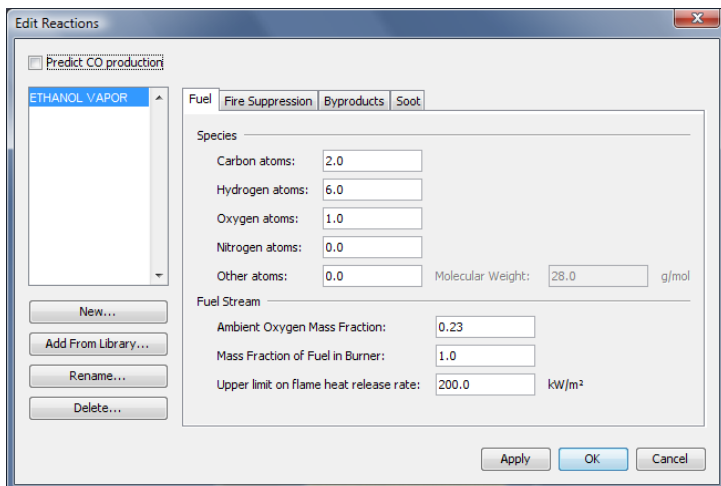

Figure 11.2. Fuel panel of the Edit Reactions dialog
2. On the **Fuel** tab, enter the number of atoms in the reaction equation. The input for an ethanol reaction as defined in the ethanol_pan.fds example distributed with FDS5, is shown in Figure 11.2. The fuel is defined by 2 carbon atoms, 6 hydrogen atoms, and 1 oxygen atom.